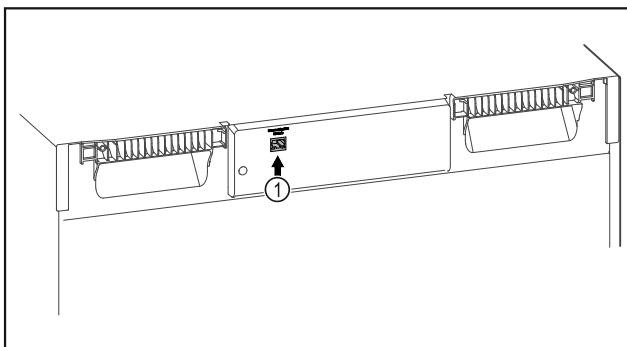

Fig. 120
- ❑ SmartModule Fig. 120 (1) is in use.